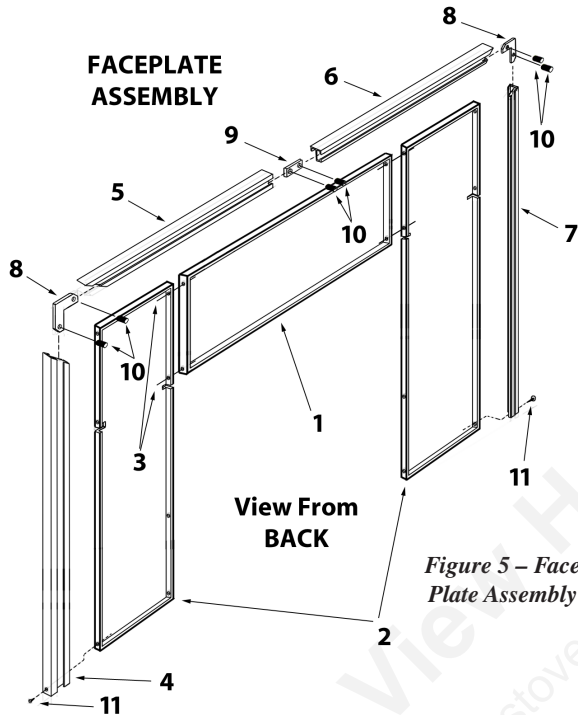

Figure 5 - Face Plate Assembly
9. Connect the chimney liner to the insert using a stainless steel adapter and securing with a minimum of three (3) sheet metal screws. The liner MUST be attached with the male (or crimped) end of the adapter inside the flue collar of the insert to allow condensation and/or creosote to drain back into the firebox.
10. Assemble the face plate (figure 5). Lay pieces face down on carpet or other soft surface to protect finish during assembly. The face plate consists of two side